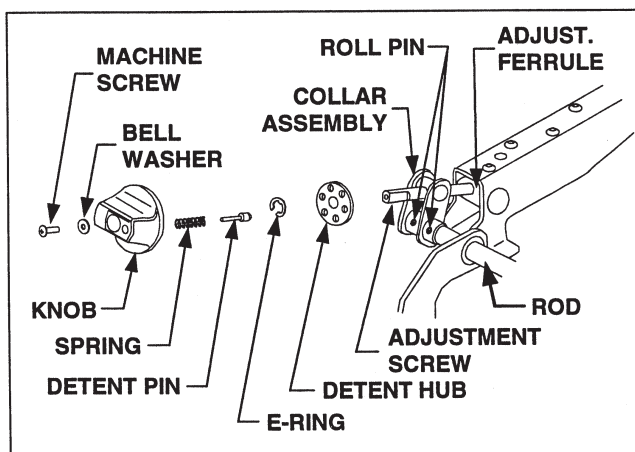

Figure 1
A. REMOVAL and PREPARATION. Refer to Figure 1.